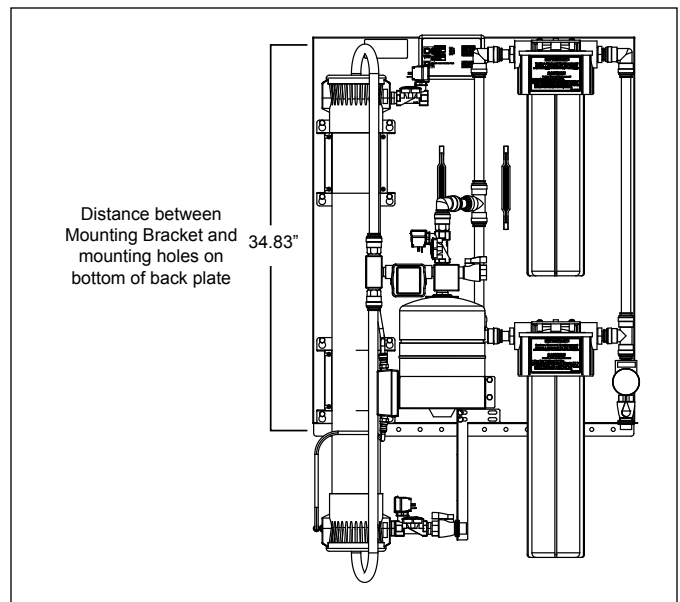

Figure 9. Mounting Dimensions of TAP System
3. Secure the bottom portion of the TAP system to the wall using the holes provided. Make sure to secure the system into wall studs or use the appropriate mounting hardware (Figure 9).